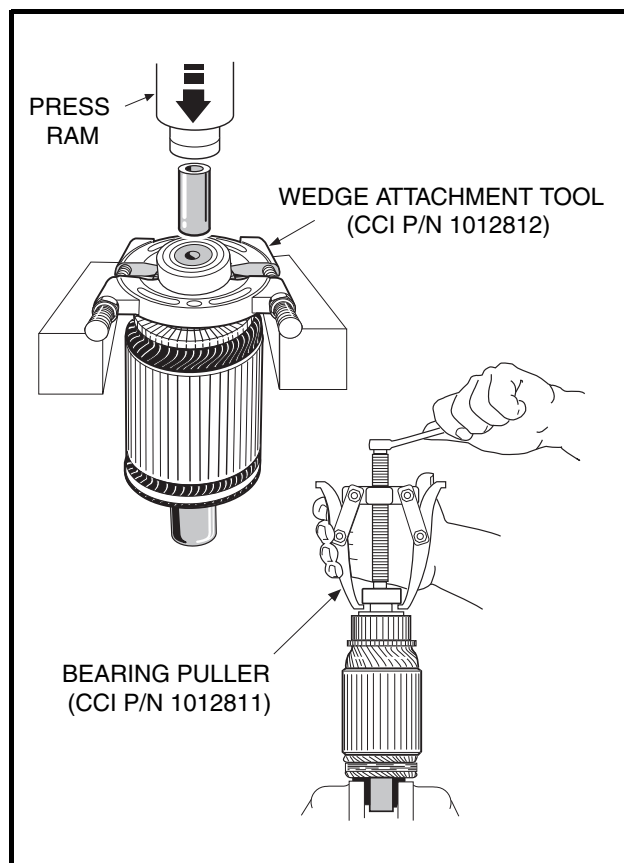

Figure 16a-10 Bearing Removal
- 2.1. With brush rigging facing down and held slightly above stator shell, insert the two terminal posts through insulators in stator shell wall at the A1 and A2 positions. Insert brush holder screws through the holes in the brush rigging and into the threaded holes in the mounting bracket (**Figure 16a-11, Page 16a-11**). Tighten the screws to 20 in-lb (2.3 N-m).
- 2.2. One at a time, push brush spring extensions back from brushes and slide the brushes back until they are completely retracted into their mounting slots. Then position the brush springs against the sides of the brushes so that spring pressure will hold them in the retracted position (**Figure 16a-5, Page 16a-4**).